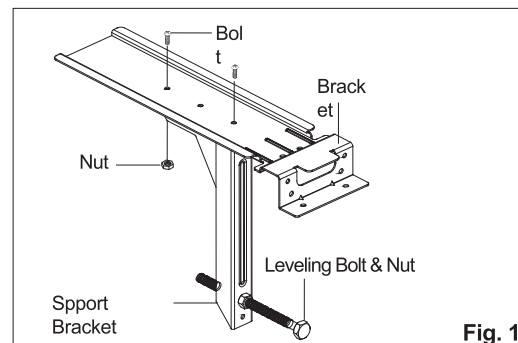

Fig. 1
1. Loosely attach the Support Bracket to the bottom of Bracket using Bolts, and Nuts. Attach the Leveling Bolt and Nut. (Fig. 1)